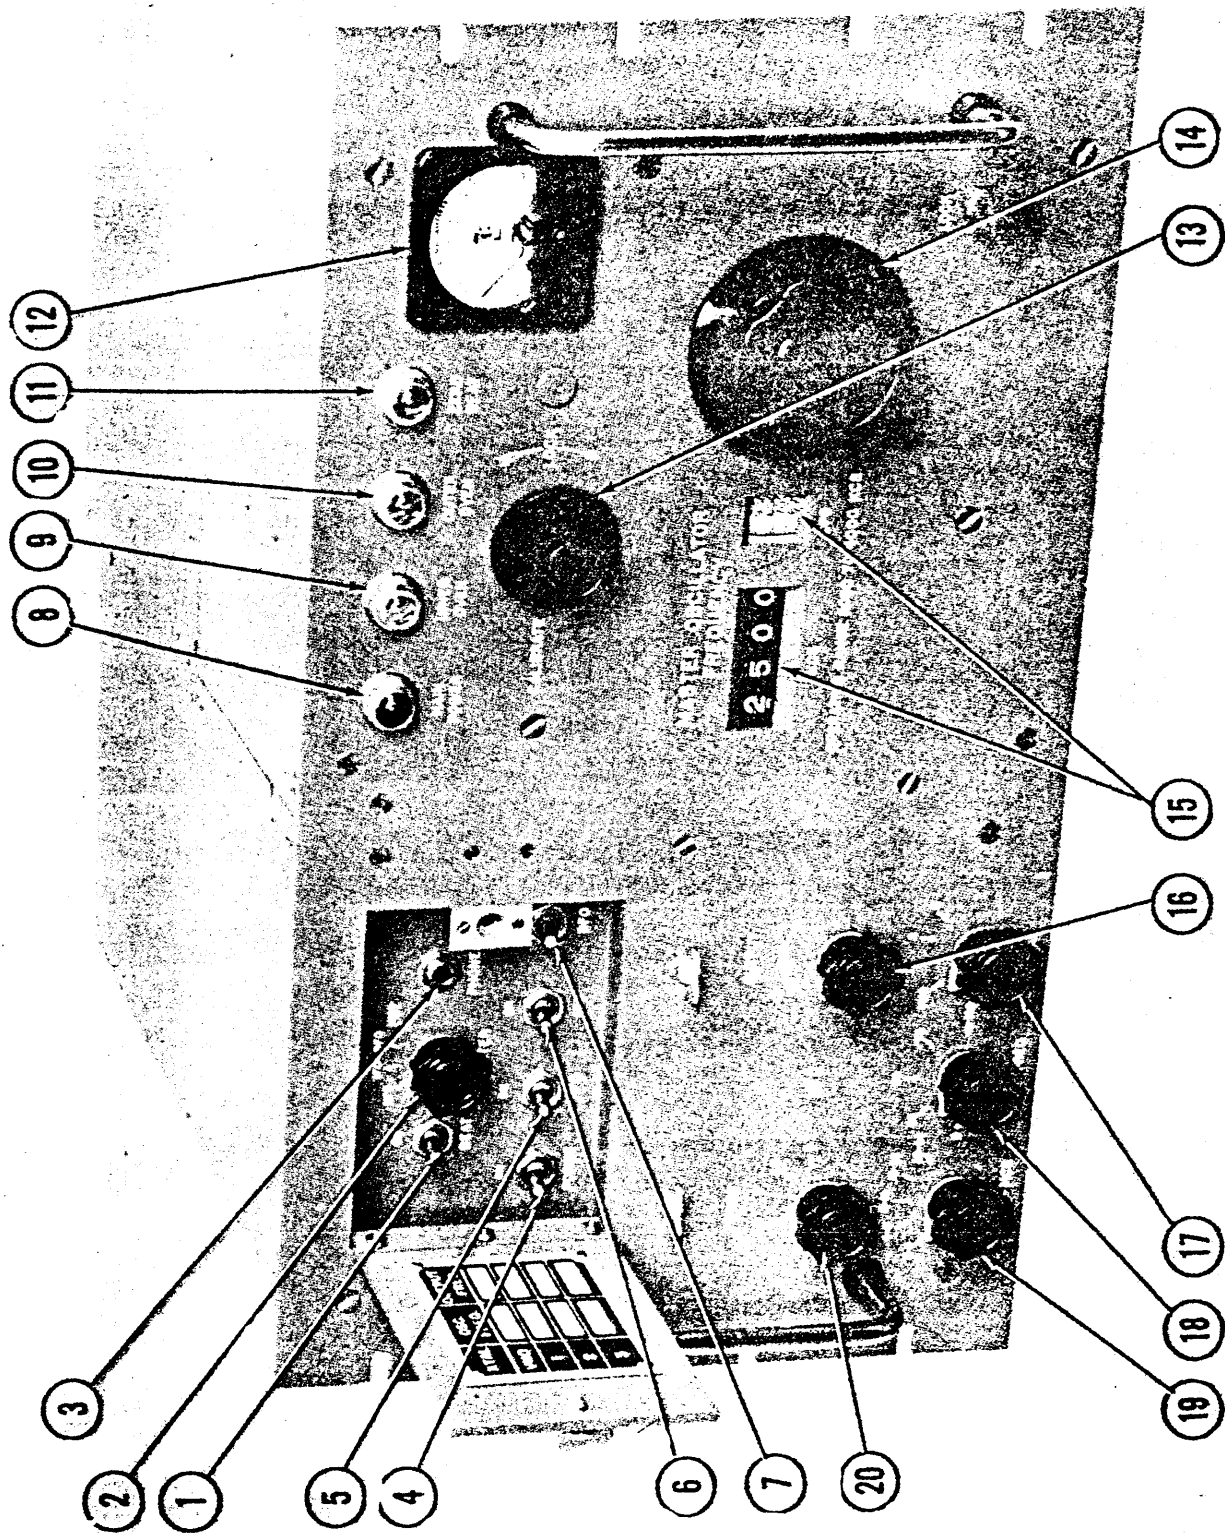

Figure 3-1. Operating Controls
a. MASTER OSCILLATOR FREQUENCY knob C301 and C302 is a variable capacitor control designated 14 on figure 3-1. It varies the output frequency of the master oscillator within its operating range of 2 to 4 mc. The associated dial, designated 15 on figure 3-1, indicates the oscillator's output frequency. Due to frequency multipliers in the VOX's RF section, the VOX's outputs are as shown in the tabulations on page 4-2.
b. C303 under small cover plate at left of meter is a screwdriver control (undesigned on figure 3-1). Refer to c below.
c. CALIBRATE L301 is a slug inductance control designated 13 on figure 3-1. The screwdriver control, b above, and CALIBRATE control are used in "zero beating" the output of the master oscillator (2 to 4 mc) against the 100-kc standard oscillator. For example, at 2 mc, the 2-mc fundamental of the master oscillator will "zero beat" with the 20th harmonic of the 100-kc standard oscillator.
d. ZERO BEAT I303 is an indicator designated 11 on figure 3-1. During calibration of master oscillator vs 100-kc standard oscillator, the indicator goes off when a harmonic of the 100-kc oscillator matches a harmonic of the 2- to 4-mc master oscillator. (See figure 4-6.)
e. INNER OVEN I301 is an indicator designated 9 on figure 3-1. Refer to f below.
f. OUTER OVEN I304 is an indicator designated 10 on figure 3-1. INNER OVEN and OUTER OVEN indicators go on when the ovens are being heated by resistors R307 and R308 and R309 and R310, respectively. This requires closure of switches S301 and S302 and S303, respectively.
g. MAIN POWER I302 is an indicator designated 8 on figure 3-1. It indicates filaments of tubes V103, V104, and V105 contained in power supply chassis are receiving 6.3-volt filament supply (figure 4-8).
h. Output meter M301 is designated 12 on figure 3-1. In conjunction with METER selector switch, designated 2 in figure 3-1, it indicates output level of HFO, IFO, BFO, or VMO.
(1) XTAL S201. - Switch control designated 17 on figure 3-1. Selects circuit determining VOX's master frequency oscillator. In position VMO, the
(2) XTAL FREQ C210. - Variable capacitor control designated 18 on figure 3-1. When VOX's crystal oscillator stage (V202) is used as the master oscillator, it "pulls" the crystals frequency a limited amount to obtain the desired output frequency.
(3) OUTPUT R215. - Potentiometer control designated 16 on figure 3-1. Controls RF output level of VOX.
(4) BAND-MCS S202. - Switch control designated 19 on figure 3-1. Controls RF multiplying factor of VOX's 2- to 4-mc oscillator; namely, 1 for 2-4 mc output; 2 for 4-8 mc output; 4 for 8-16 mc output; 8 for 16-32 mc output; 16 for 32-64 mc output.
(5) TUNING C225. - Switch control designated 20 on figure 3-1. Tunes HFO output circuits; should be used in conjunction with meter designated 12 on figure 3-1 during tuning operation; that is, maximizing meter deflection.
(figure 4-3) is a highly stable 100-kc crystal oscillator against which the VMO is calibrated. When the 100-kc oscillator is turned on, both the 100-kc and the VMO oscillator voltages are fed to mixer V103. Here the difference frequency between one of the 100-kc oscillator's harmonics and the VMO's harmonics is passed by filter action of capacitors C111, C112, and resistor R108. This is a low-pass filter with a rising characteristic at very low frequencies. The audio signal is then amplified successively by the first and second halves of V104. Toggle switch S104 turns on or off the 100-kc oscillator's plate supply. This switch is designated 1 on figure 3-1. ZERO BEAT indicator I303 on the front panel (control designated 11 on figure 3-1) is connected into the plate circuit of the final amplifier so that the zero beat may be seen by the flashing of the neon lamp. Earphones may be plugged in at the output of the final amplifier at jack J105, in order to pick up the zero beat frequency audibly. The circuit, built around crystal CR101 containing C105, C106, and R102, is for metering the VMO output.
(1) POWER S101. - Toggle-switch control designated 4 on figure 3-1. Turns power on the VOX.
(2) PHONES J105. - Jack designated 3 on figure 3-1. Audible monitor of "zero beat" between VOX's 100-kc and master frequency oscillators.
(3) BEAT (ON-OFF) S104. - Toggle-switch control designated 1 on figure 3-1. Supplies B+ to VOX's 100-kc oscillator so that mixer V103 in calibrating chain receives 100-kc and VMO oscillator voltages for production of beat tones.
(4) HFO S103. - Toggle-switch control designated 5 on figure 3-1. Connects B+ to HFO tubes V202 through V207.
(5) IFO S102. - Toggle-switch control designated 6 on figure 3-1. Connects B+ to IFO tube V201.
(6) BFO S106. - Toggle-switch control designated 7 on figure 3-1. Connects B+ to BFO tube V105.